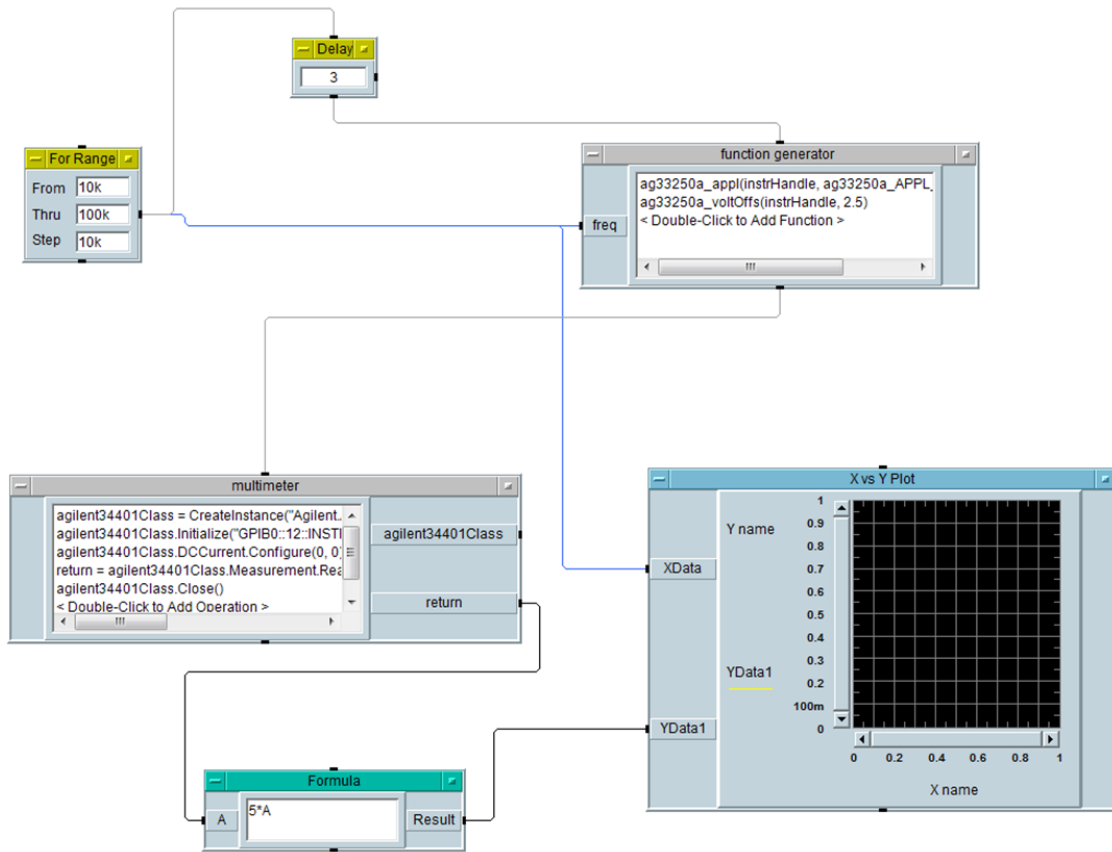

Fig. 4: Final VEE configuration for Agilent 33120A
- Complete the configuration as shown in Fig. 4.